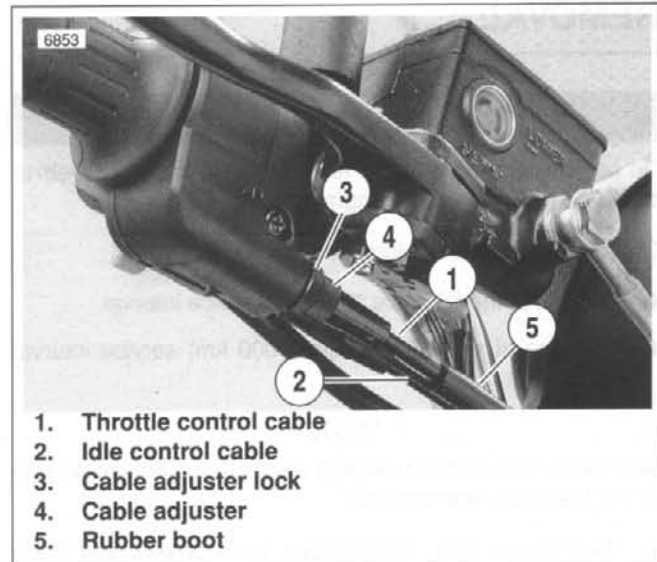
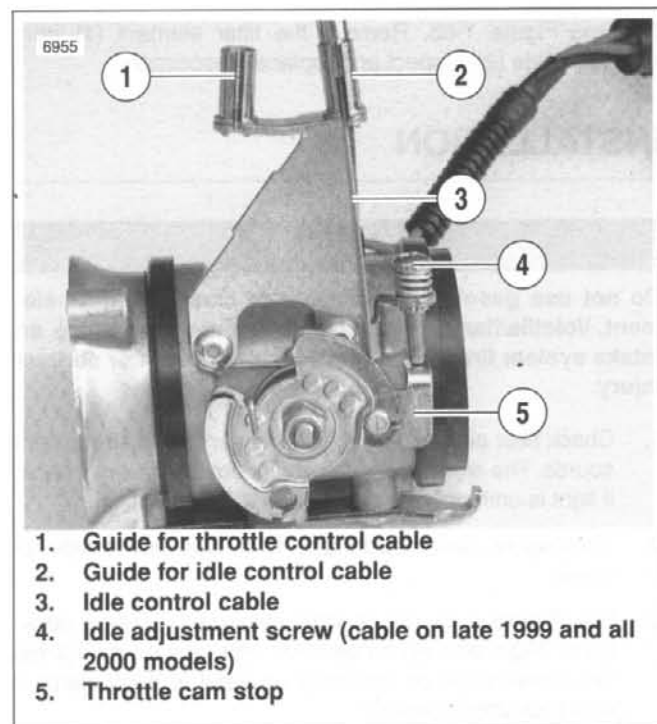

Figure 1-64. Throttle Cables
Figure 1-65. Throttle Body Manifold
2. See Figure 1-64. Slide rubber boot (5) off each cable adjuster (4).
3. Loosen cable adjuster lock (3) on each cable (1, 2).
All 2000 Model motorcycles have throttle cable clamps (not shown) secured by a screw that positively locate the cables. The throttle cable clamps are located over the guides (items 1 and 2 in Figure 1-64).
6. See Figure 1-65. Turn adjuster on throttle control cable until throttle cam stop (5) touches stop plate. Tighten jam nut on throttle control cable adjuster; release throttle control grip.
7. Turn handlebars fully to right. Turn adjuster on idle control cable (3) until end of cable housing just touches the cable guide (2).
8. See Figure 1-64. Twist and release throttle control grip a few times. Throttle plate must return to idle position each time throttle grip is released. If this is not the case, turn adjuster (4) on idle control cable (2) (shortening cable housing) until throttle control functions properly.
9. Tighten cable adjuster lock (3) on idle control cable (2). Recheck operation of throttle control.
10. Slide rubber boot (5) over each cable adjuster (4). Recheck engine slow idle speed; adjust if required.
Regular idle speed is 850-1050 RPM. Set idle speed using idle adjustment screw (4) shown in Figure 1-65.